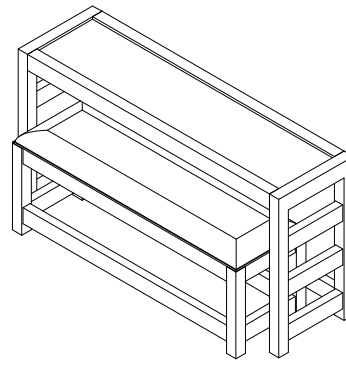

Figure 1
2. Attach stretcher to the legs using Dowel (A), Allen Bolt (B), lock washer (D), flat washer (E) and the Allen Wrench (F). As Shown in Figure 1. (Do not over tighten bolts during assembly)